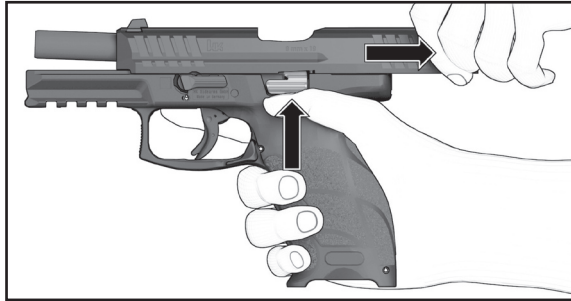

Figure 13 — Unloading
3. Rack and lock the slide to the rear by pressing upwards on either or both of the ambidextrous slide release levers and the slide is pulled back towards the rear (Figure 13).